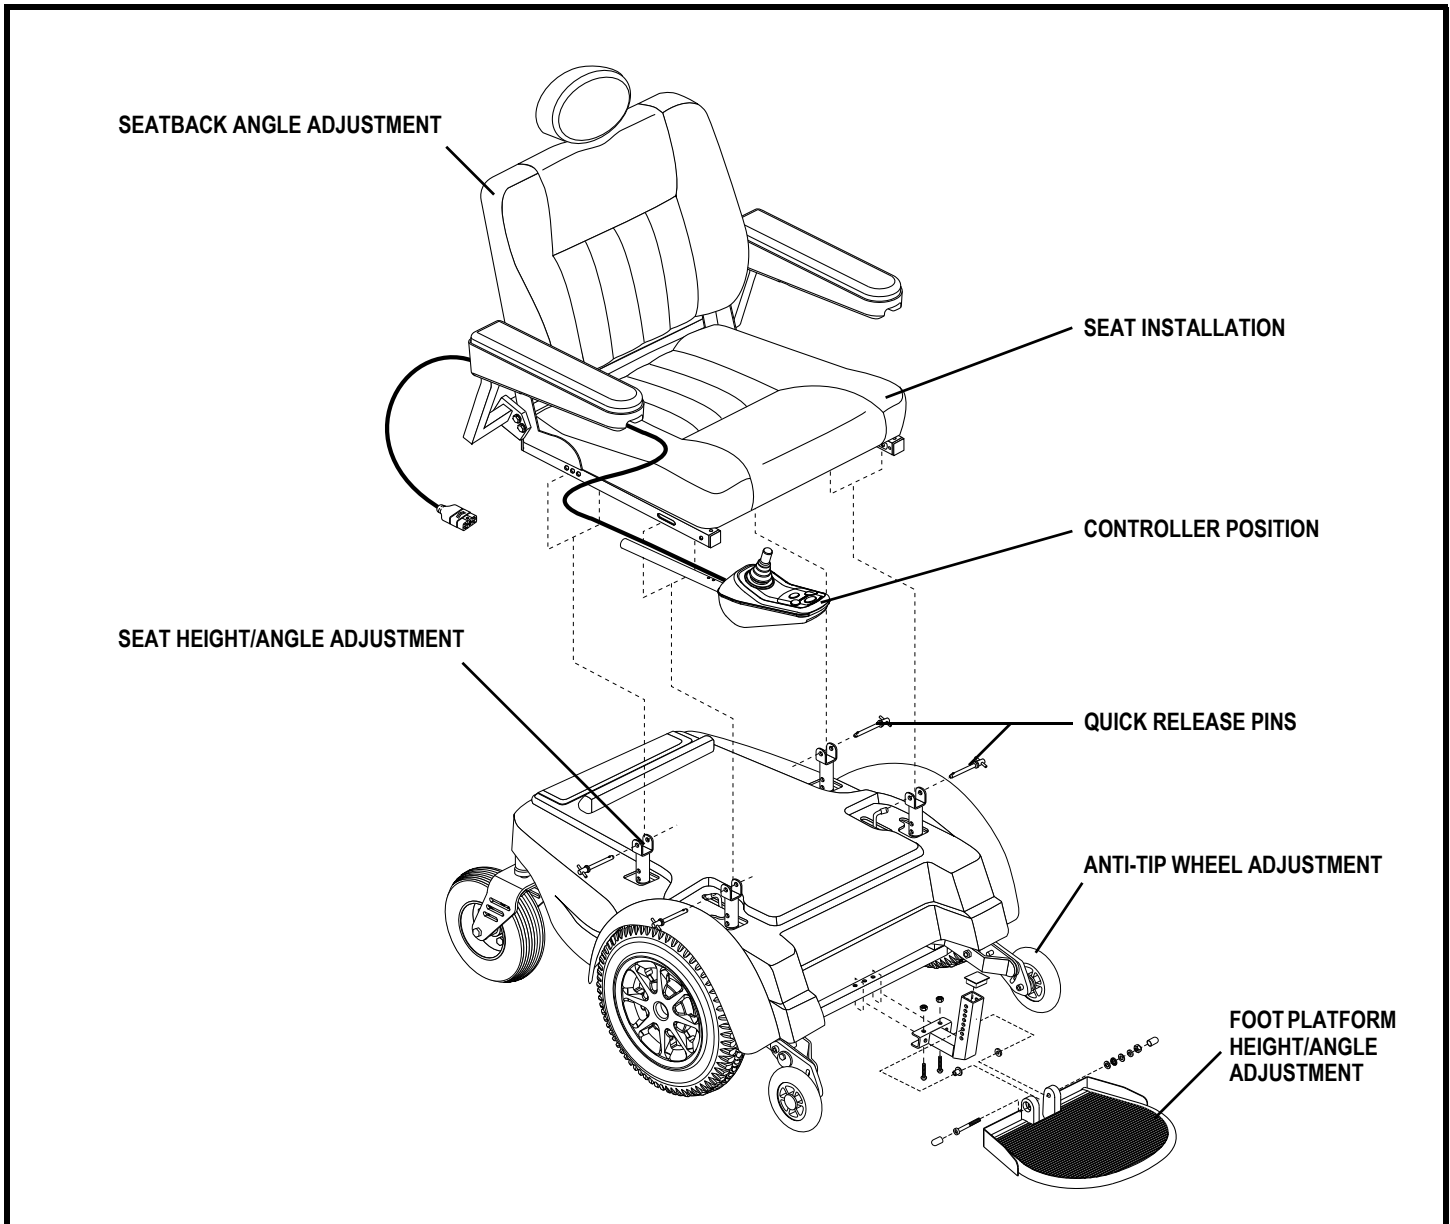

Figure 9. Jazzy 1170XL Plus Series Assembly View
Your power chair may require some assembly either before initial use or after transportation. It may also require disassembly to make some comfort adjustments. **Figure 9** details those parts of the power chair that are designed to be disassembled and assembled by an end user or by a qualified caregiver before using the product or making comfort adjustments.
2. Remove the quick release pins from each of the four seat towers. See **figure 9**.